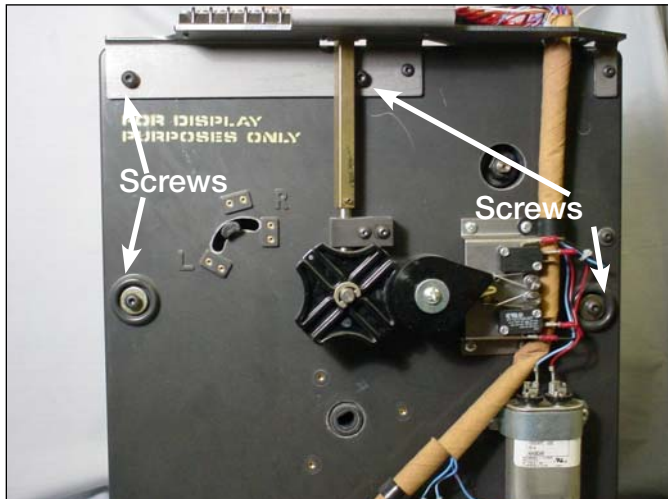

Figure 23.
5. Insert four pan head Allen screws into the tap changer assemblies. Two screws will mount the two tap changer assemblies and the terminal block bracket at the top of the tap changer. The other two screws are inserted in the mounting holes along both side centers of the tap changer. See Figure 23.